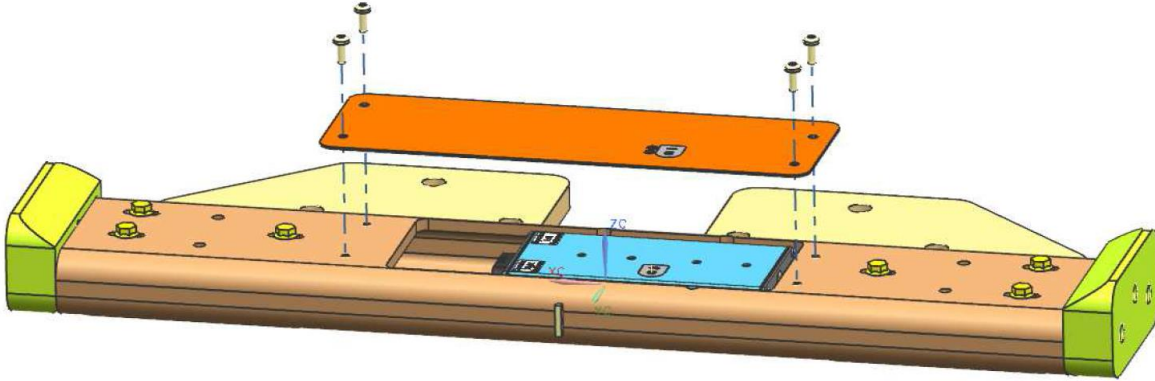

Figure 3 - LIM Cover Plate
- Mount the cover plate and align the LED on the LIM to complete assembly [Figure 3]